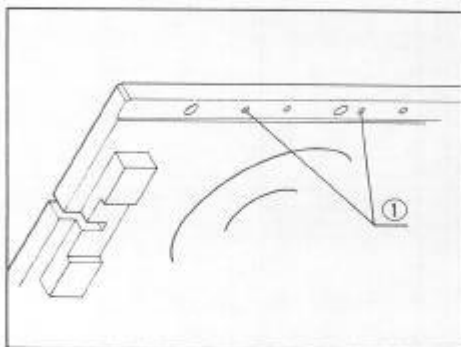

Fig. 7
Attach the mechanical stage attachment to the lower right side of the plain stage, tightening the clamping screw ① with a coin. (Fig. 7)